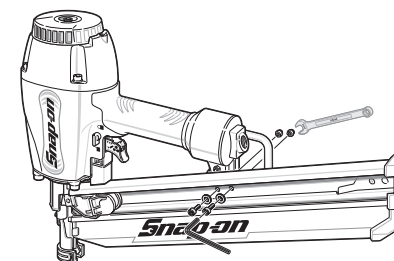

Figure 9
2. Loosen hex screws from back of magazine and pull magazine back. See Figure 9.